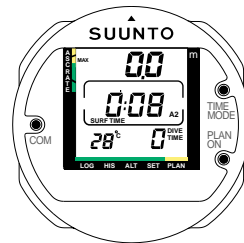

Fig. 4.11 PERSONAL/ALTITUDE ADJUSTMENT SETTING, STEP 5
5. The process is ended by the RETURN command, i.e. by connecting all three contacts at the same time (Fig. 4.11). The dive computer will return to the surface mode.